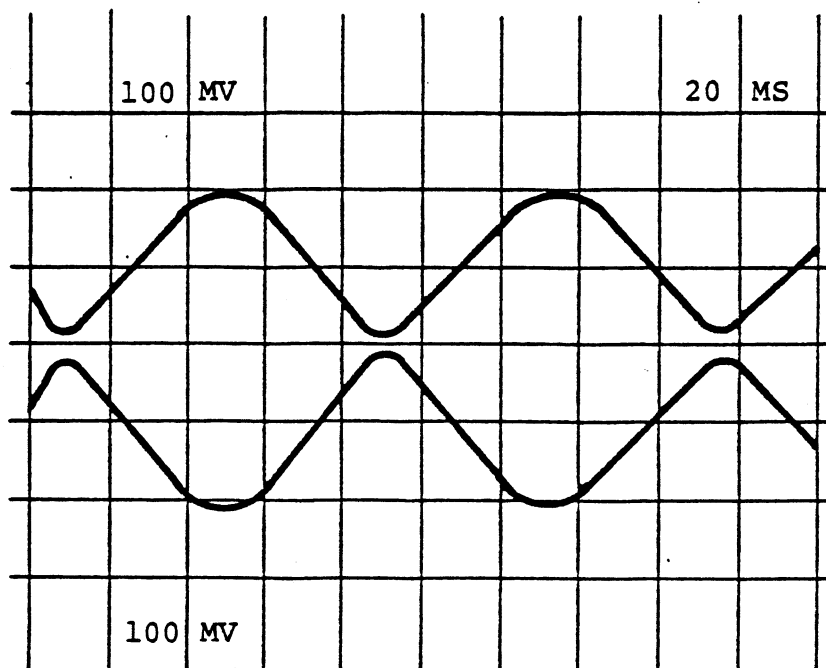

Figure 4-10. Head Radial Alignment
- e. Decalibrate the time base and adjust the oscilloscope so that two lobes completely appear on the screen (Figure 4-10).